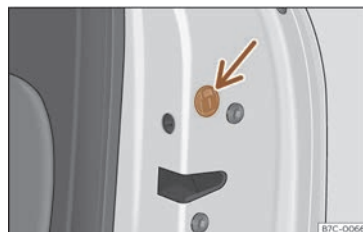

Fig. 65 Locking the door manually.
- If necessary, remove the rubber seal  from the front of the door >>> **Fig. 65**.